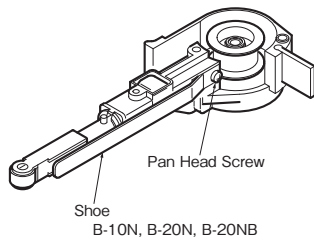

Fig.14
- a) B-10N, B-20N, B-20NB (Fig.14)